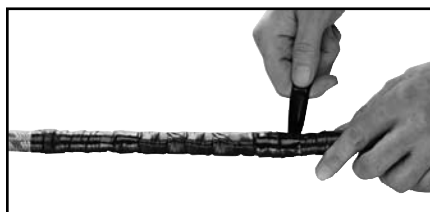

Figure 8
1. Application of a semi-conducting tape over the conductor connector must result in a smooth contour. (Figure 8) Insulation putty can assist in this, as well as seal against moisture.